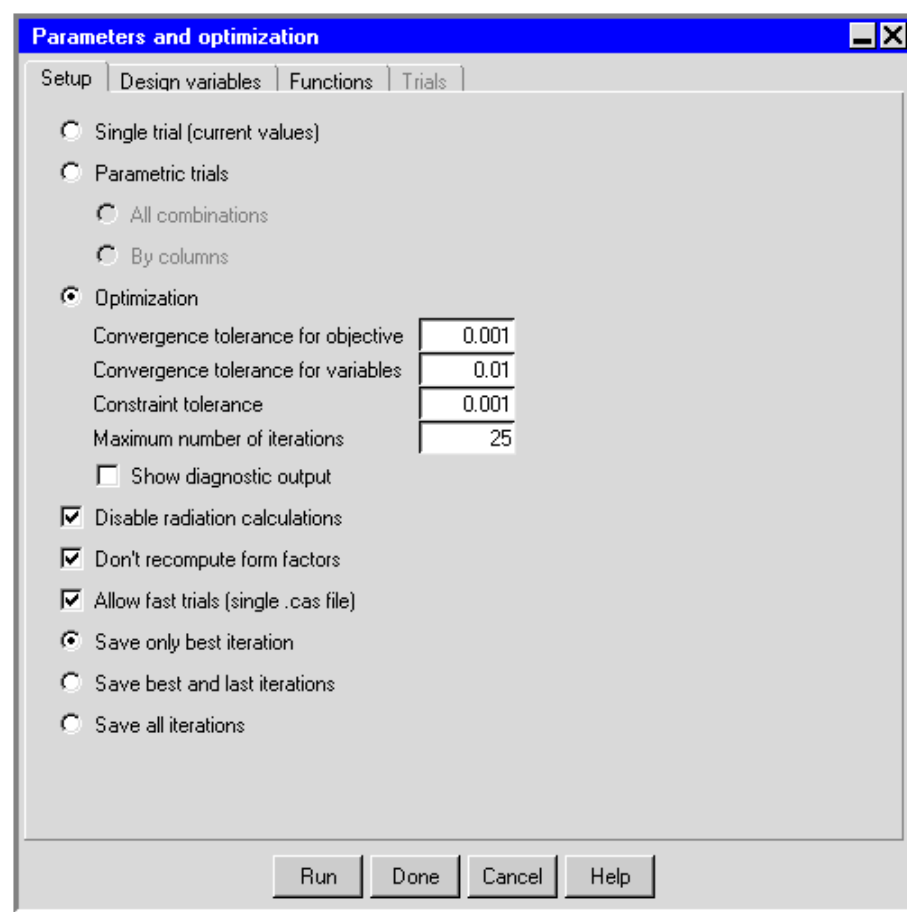

Figure 23.2.1: The Parameters and optimization Panel (Setup Tab)
2. To enable the optimization, select **Optimization** in the **Setup** tab of the **Parameters and optimization** panel. To open the **Parameters and optimization** panel (Figure 23.2.1), select **Run optimization** in the **Solve** menu or click the  button in the **Model and solve** toolbar.